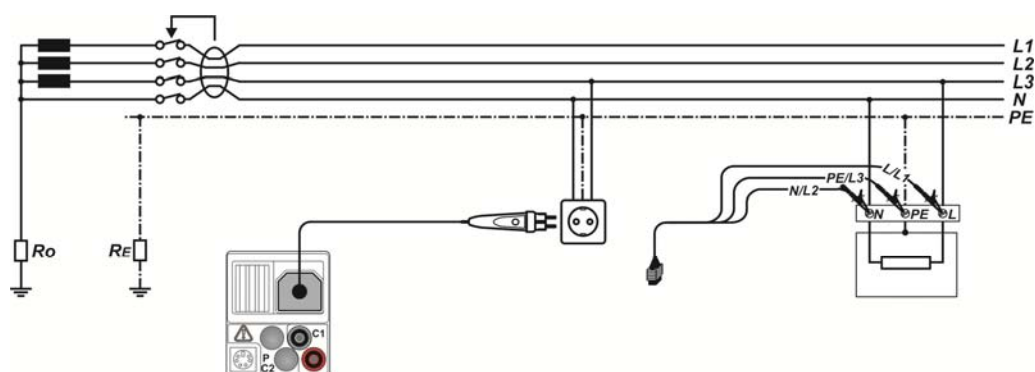

Figure 5.20: Connecting the plug commander and the 3-wire test lead
- Connect** test leads to the item to be tested (see Figure 5.20).
- ❑ **Connect** test leads to the item to be tested (see *Figure 5.20*).
<ul style="list-style-type: none"> <input type="checkbox"/> Select the RCD function using the function selector keys. <input type="checkbox"/> Set sub-function to AUTO using UP / DOWN keys. <input type="checkbox"/> Set test parameters (if necessary). <input type="checkbox"/> Connect test cable to the instrument. <input type="checkbox"/> Connect test leads to the item to be tested (see Figure 5.20). <input type="checkbox"/> Press the TEST key to perform the test. 	Start of test